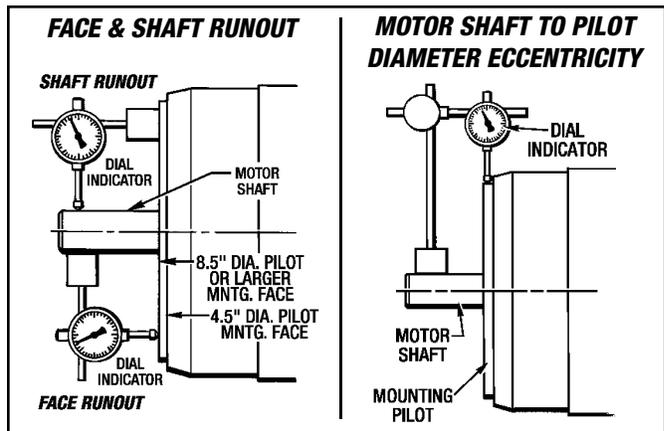

Figure 3.1 - Verifying Motor Specifications
The Motor Manufacturer's Specifications must be verified first to ensure the Motor Brake Oil Seal Reliability. (1) **Motor Shaft Runout**, (2) **Mounting Face Runout** and (3) **Motor Shaft to Pilot Diameter Eccentricity** need to be checked with a Dial Indicator as shown in *Figure 3.1*.